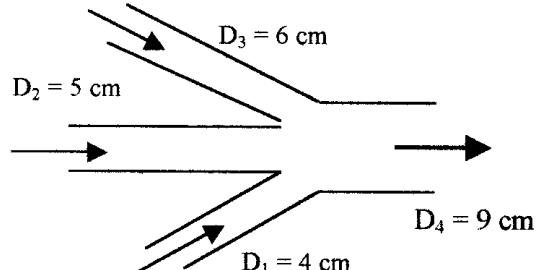

Fig. P3.8
**3.8** Three pipes steadily deliver water at  $20^\circ\text{C}$  to a large exit pipe in Fig. P3.8. The velocity  $V_2 = 5 \text{ m/s}$ , and the exit flow rate  $Q_4 = 120 \text{ m}^3/\text{h}$ . Find (a)  $V_1$ ; (b)  $V_3$ ; and (c)  $V_4$  if it is known that increasing  $Q_3$  by 20% would increase  $Q_4$  by 10%.